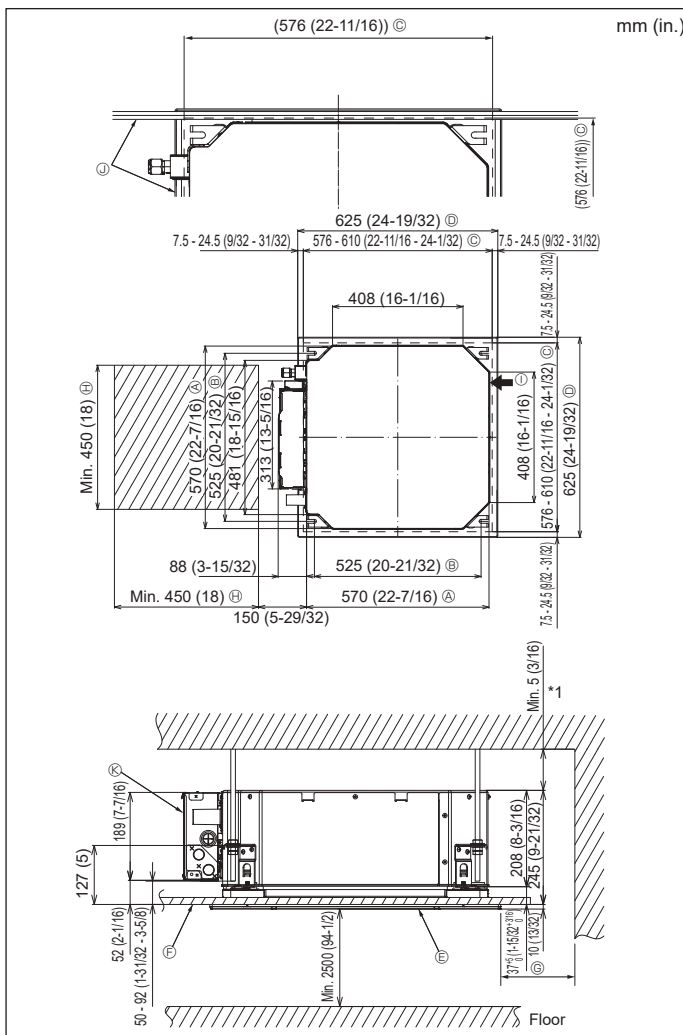

Fig. 4-2
②	Washers (with insulation)	4
②	Washers (without insulation)	4
③	Pipe cover (for refrigerant piping joint)
③	small diameter (liquid)	1
③	large diameter (gas)	1
④	Band (large)	6
④	Band (middle)	2
④	Band (small)	2
⑤	Drain socket	1
⑥	Insulation	1
4.2. Ceiling openings and suspension bolt installation locations (Fig. 4-2)